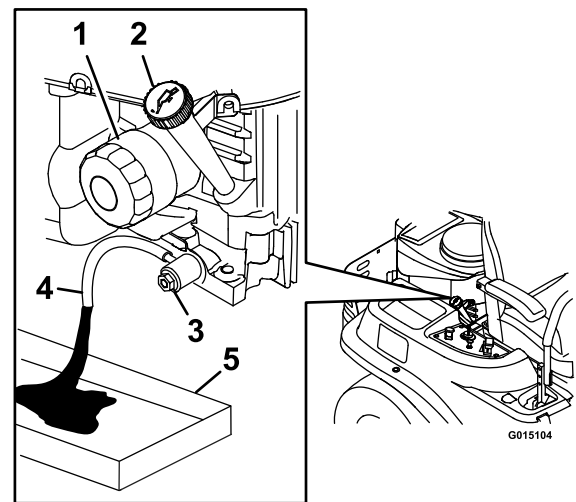

Figure 25
5. Install the oil drain hose, located in the literature pack, onto the oil drain valve (Figure 25). Remove the oil fill cap/dipstick.
and retain the hose. Wipe up any excess oil on the frame (Figure 25).